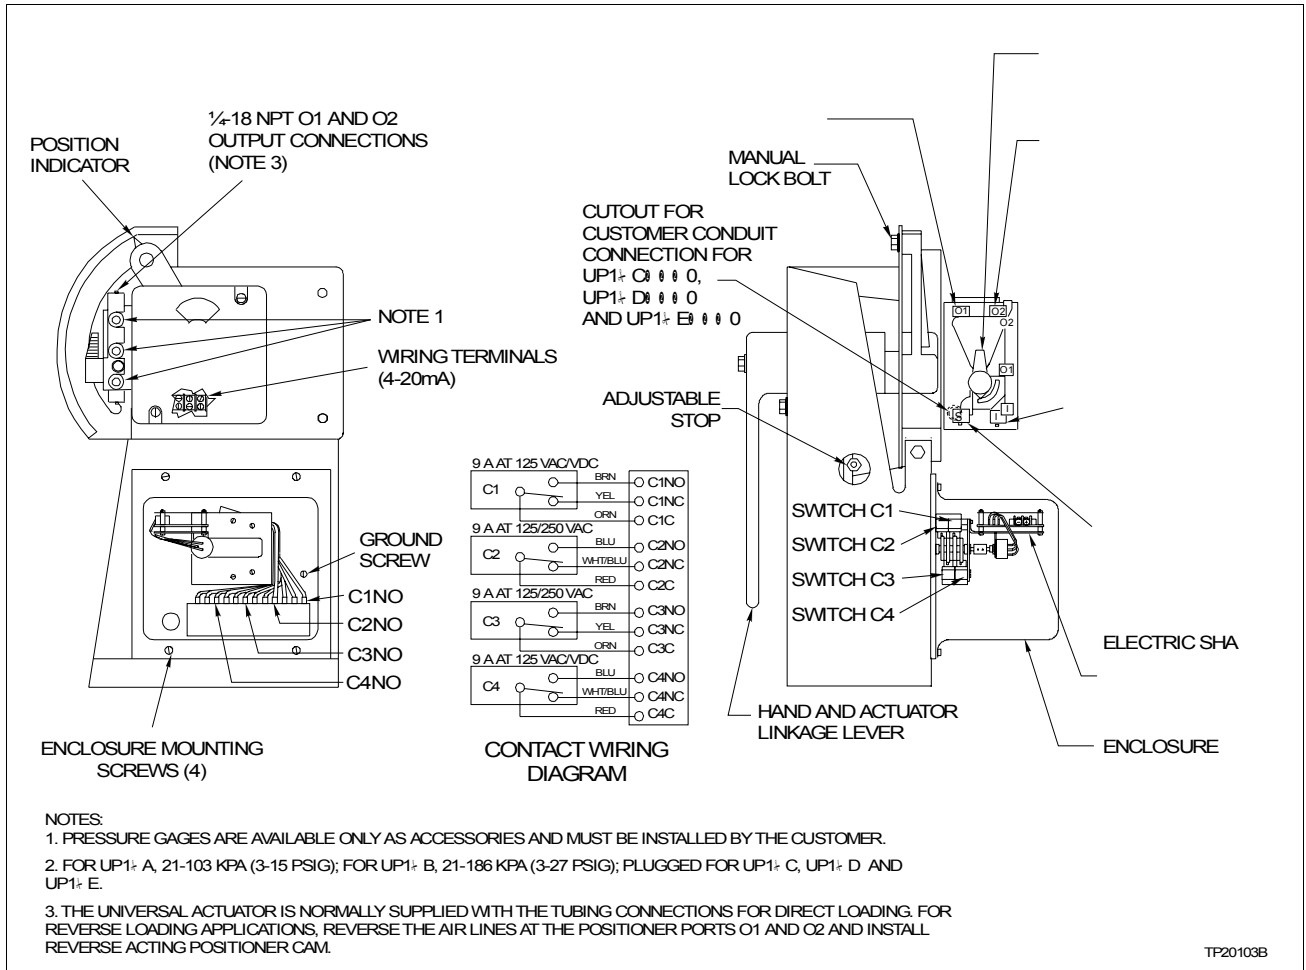

Figure 3-1. Type UP1 Actuator with Type AV Positioner, Electric Shaft Position Transmitter and Alarm/Travel Switches
**NOTE:** Refer to Figure 3-1.
Use suitable fittings and tubing sizes listed in Table 3-1 to make supply and signal connections. If supply regulation is needed, use the regulator data shown in Table 3-1. Refer to Figures 3-1 through 3-4 and 3-9 and 3-10 for the size and location of connections.
**NOTE:** Refer to Figures 3-1 And 3-2.